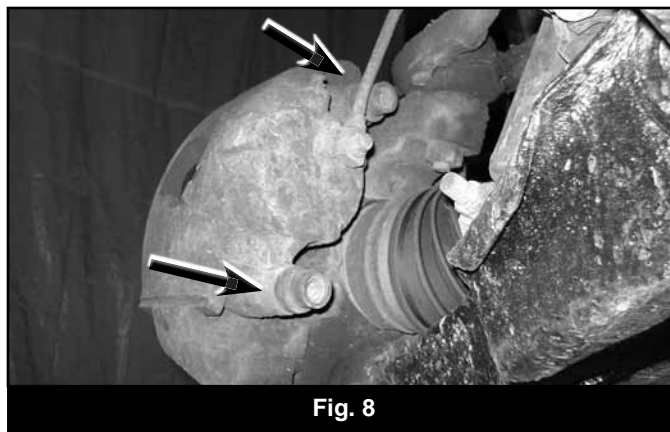

Fig. 8
19. Disconnect the rubber brakeline from the caliper. Discard old brass crush washers (2), retain banjo bolt (Fig 8).
22. Remove the brake caliper anchor bracket bolts and pull the caliper free from the steering knuckle and rotor (Fig 8). Hang the caliper securely out of the way. Retain caliper mounting hardware. Remove the brake rotor from the hub.